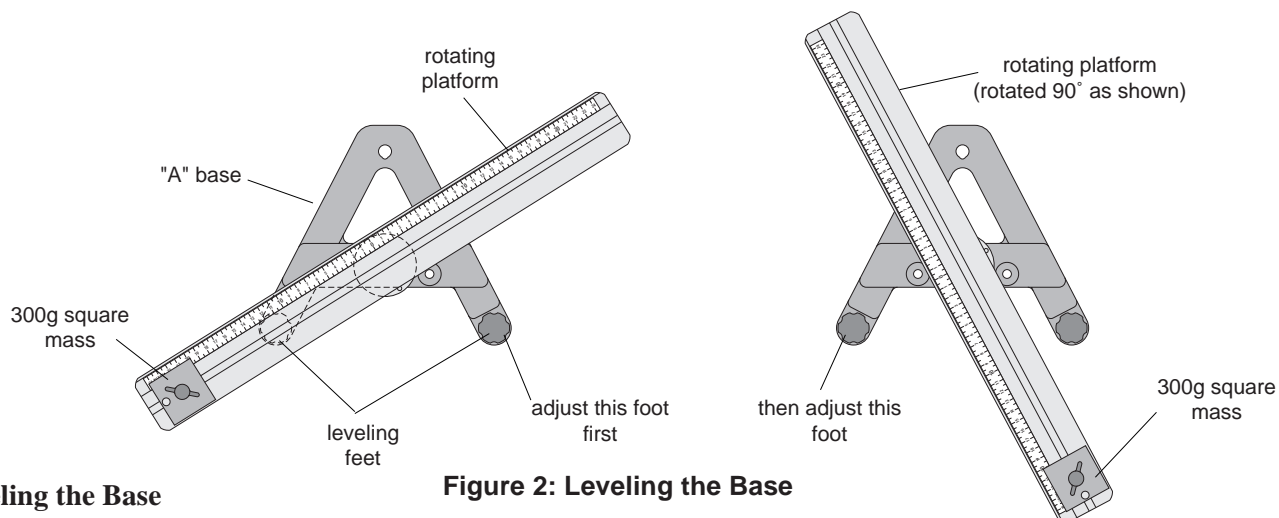

Figure 2: Leveling the Base
- ① Purposely make the apparatus unbalanced by attaching the 300 g square mass onto either end of the aluminum track. Tighten the screw so the mass will not slide. If the hooked mass is hanging from the side post in the centripetal force accessory, place the square mass on the same side.
- ② Adjust the leveling screw on one of the legs of the base until the end of the track with the square mass is aligned over the leveling screw on the other leg of the base. See Figure 2.
- ③ Rotate the track 90 degrees so it is parallel to one side of the “A” and adjust the other leveling screw until the track will stay in this position.
- ④ The track is now level and it should remain at rest regardless of its orientation.